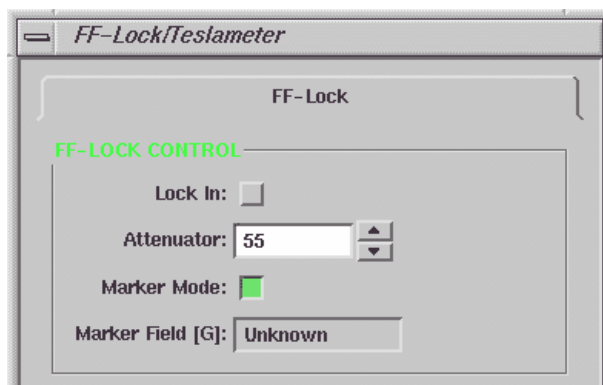

Figure 12-19 Activating the Marker Mode.
1. **Activate the Marker Mode.** Open the FF-Lock/Teslameter dialog box. Click the **Marker Mode** button. (See Figure 12-19.) The **Marker Field** box will show **Unknown**.